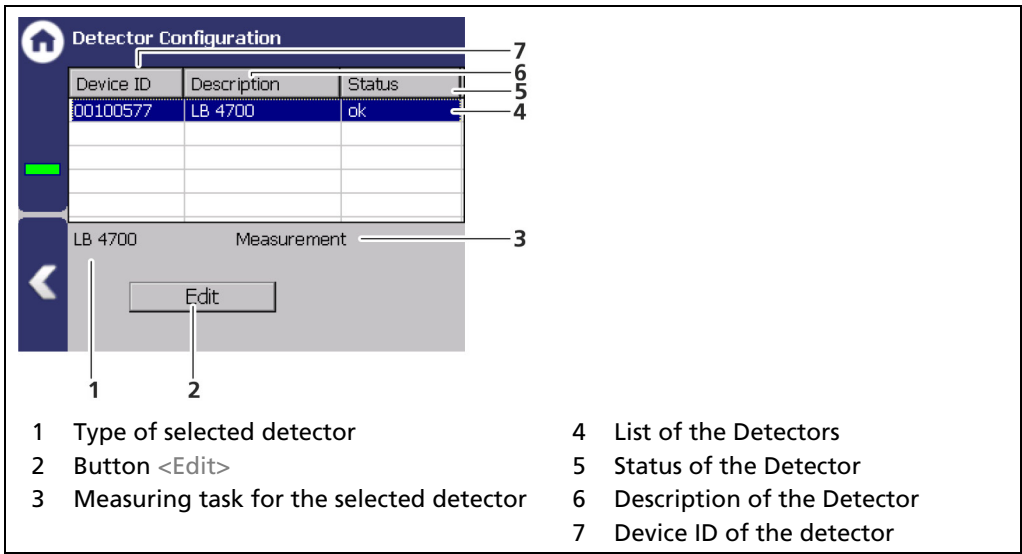
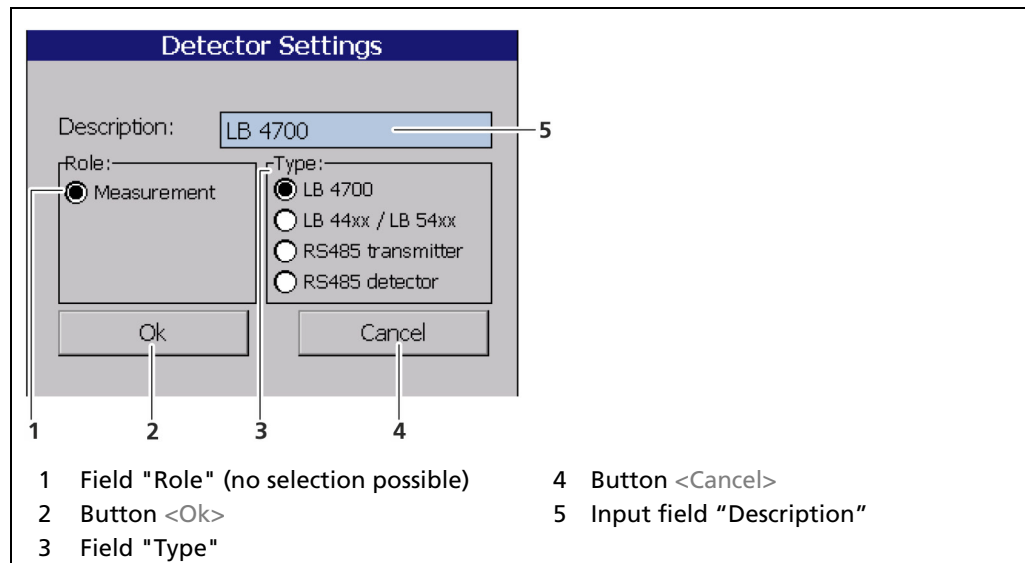

Fig. 43 Detector Configuration
Fig. 44 Detector Settings
- Detector configuration (Fig. 43, item 1)
- Configuration of the respective detector (Fig. 43, item 2)
In the window “Detector Configuration” the detectors for the measuring system are added and configured. Only configured detectors are listed and shown in the menu (Fig. 43). When a detector is selected (Fig. 44, item 6), the detector type (Fig. 44, item 4) and measuring task (Fig. 44, item 5) are shown. In systems with a single detector the device ID is determined automatically and listed.
The settings of a configured detector are edited by selecting and clicking on <Edit> (Fig. 44, item 2).
Description	Detector description. Also used for error messages, logs and in the menu structure (Fig. 43).